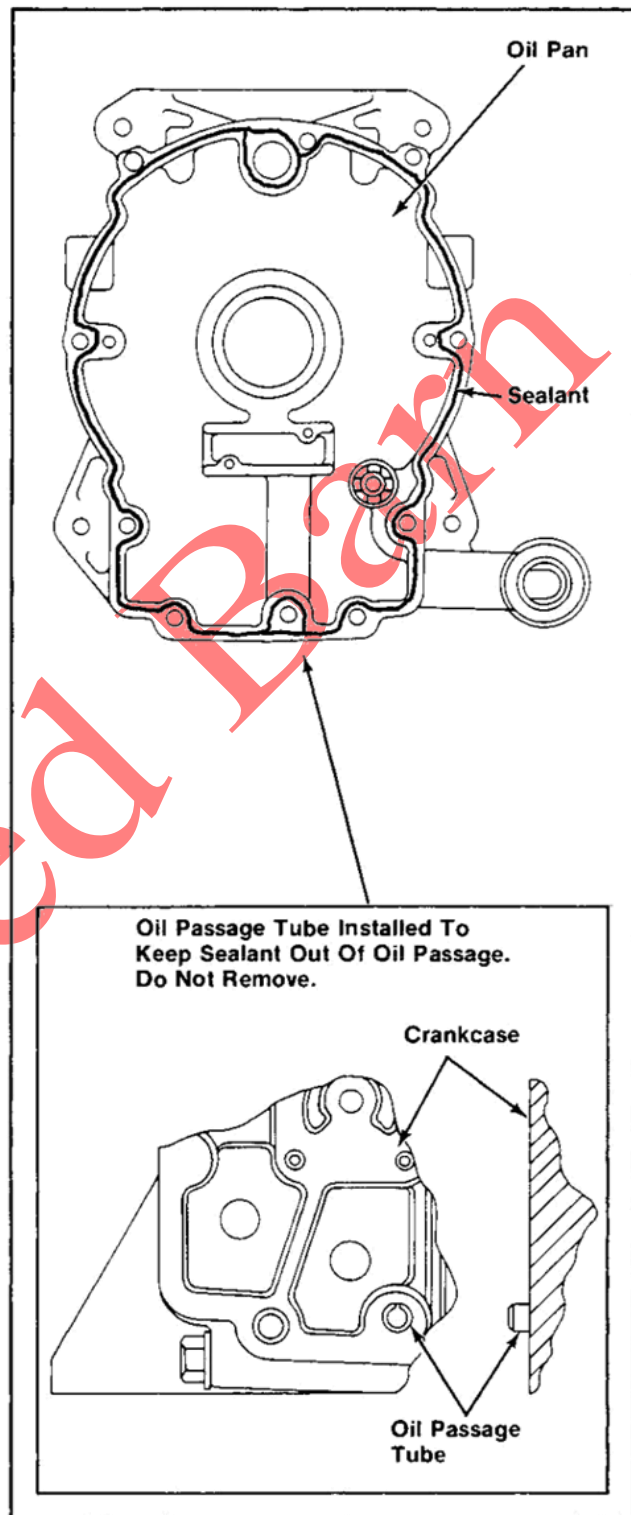

Figure 11-25. Oil Pan Sealant Pattern.
4. Apply a 1/16" bead of sealant to the oil pan as shown in Figure 11-25. Follow the sealant manufacturer's recommendations regarding setting.